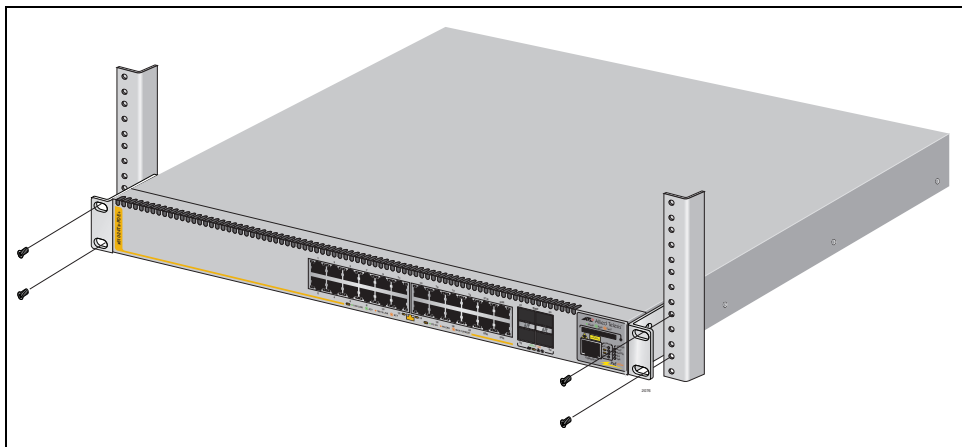

Figure 42. Mounting the Switch in a Rack
5. Mount the switch in a 19-inch rack using standard screws (not provided), as shown in Figure 42.